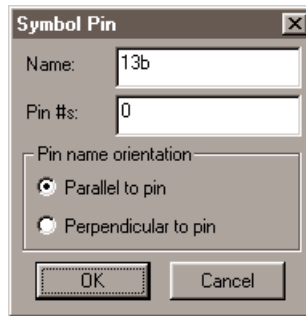

Figure 16.3. Use the Symbol Pin dialog box to edit pin names and designations.
- 2 Right-click a pin to display the dialog box pictured in Figure 16.3.